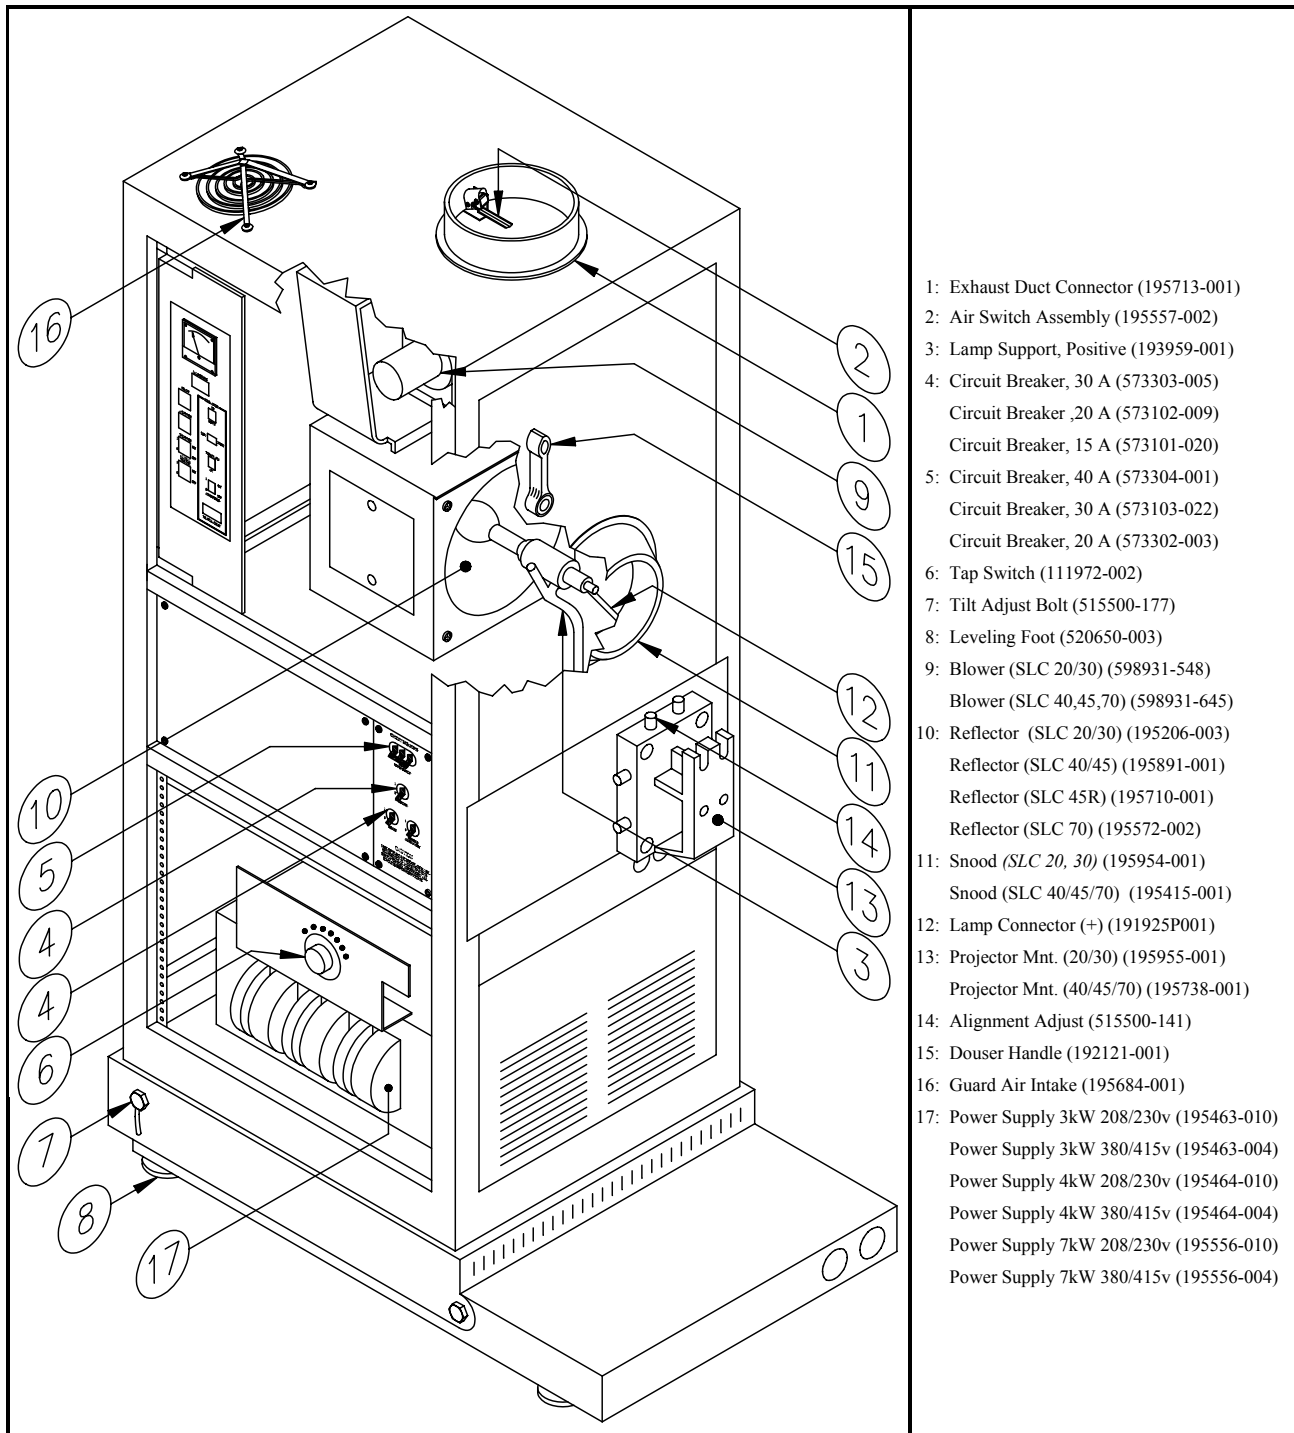

Figure 4-1: SLC Xenon Lamp Console (Front View)
Install four (4) leveling feet by screwing one into each of the four corners underneath base until about 1/2 inch of thread remains exposed. (See Item 8 in Figure 4-1.)